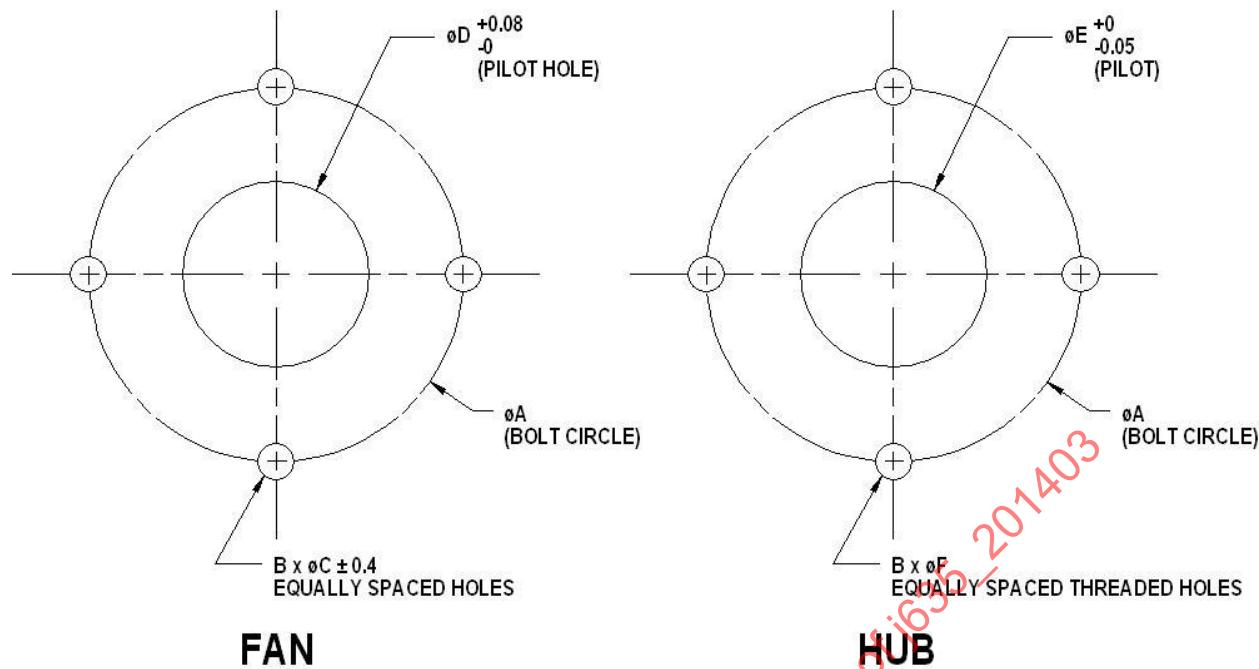

FIGURE 1 - FIXED DRIVE MOUNTING PATTERNS
Table 1 lists several bolt circle patterns for each pilot (refer to Figure 1 for definitions). Since large, flat center sections of fans with small pilots and bolt circle diameters are prone to fatigue-related failures from first-mode flexure, it is recommended that the largest diameter bolt circle be chosen, consistent with available space or hub size, to ameliorate such problems.
- 3.2.2 Table 2 lists recommended pilot and bolt circle diameters (refer also to Figure 1).
The following guidelines should be considered in determining tolerance specifications for part drawings of the fan and hub as shown in Figure 1.